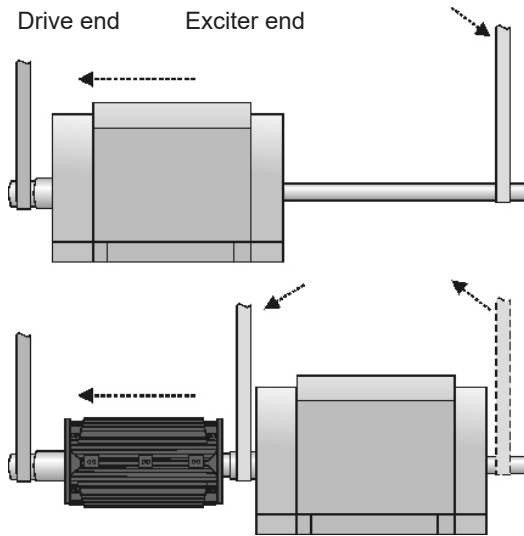

Figure 28 Floating the rotor
7. Float out the rotor (see Figure 28). First attach a thick-wall pipe over the shaft on the drive end. Attach slings around the pipe on one end and around the shaft on the opposite end. Lift up the rotor, and move it out, resting the rotor as the slings are moved down the pipe for the next lifting stage. Finally attach slings to each side of the core for moving the rotor to the final work space.